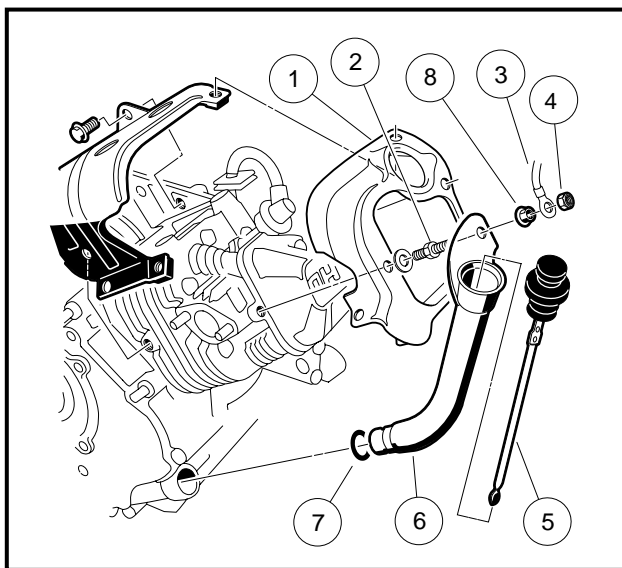

Figure 13-42 Oil Filler Tube and Ground Wire
2. Install lower, upper, and head shrouds (1) along with two-ended bolt (2) (**Figure 13-42, Page 13-23**).
- THE SHORTER END OF THE TWO-ENDED BOLT (2) GOES THROUGH WASHER AND UPPER SHROUD.
- TO PREVENT LEAKS, APPLY A LIGHT COAT OF CLEAN ENGINE OIL TO THE O-RING SEAL (7) BEFORE INSTALLATION. CARE SHOULD BE TAKEN DURING INSTALLATION TO AVOID CUTTING OR NICKING THE O-RING SEAL (**FIGURE 13-42, PAGE 13-23**).
3. Install oil filler tube (6) and O-Ring (7) into the large hole in the crankcase cover. Install the upper end of the oil filler tube (6) onto the two-ended bolt (2). Install flange nut (8) and tighten to 50 in-lb (5.7 N·m). Connect the ground wire (3) to the two-ended bolt and install and tighten the locknut (4) to 50 in-lb (5.7 N·m). Insert the dip stick (5) (**Figure 13-42, Page 13-23**).